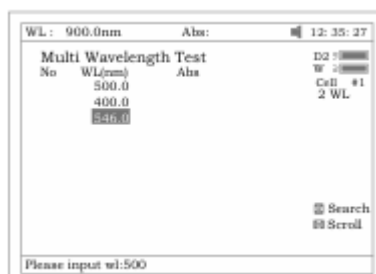

Fig.69
1. Press **[F1]** to set up a group of wavelengths for testing by pressing the numeric keypad followed by **[ENTER]** . (^) or (v) to modify the inputted data Fig. 69. Press **[ESC/STOP]** to finish setup and exit.